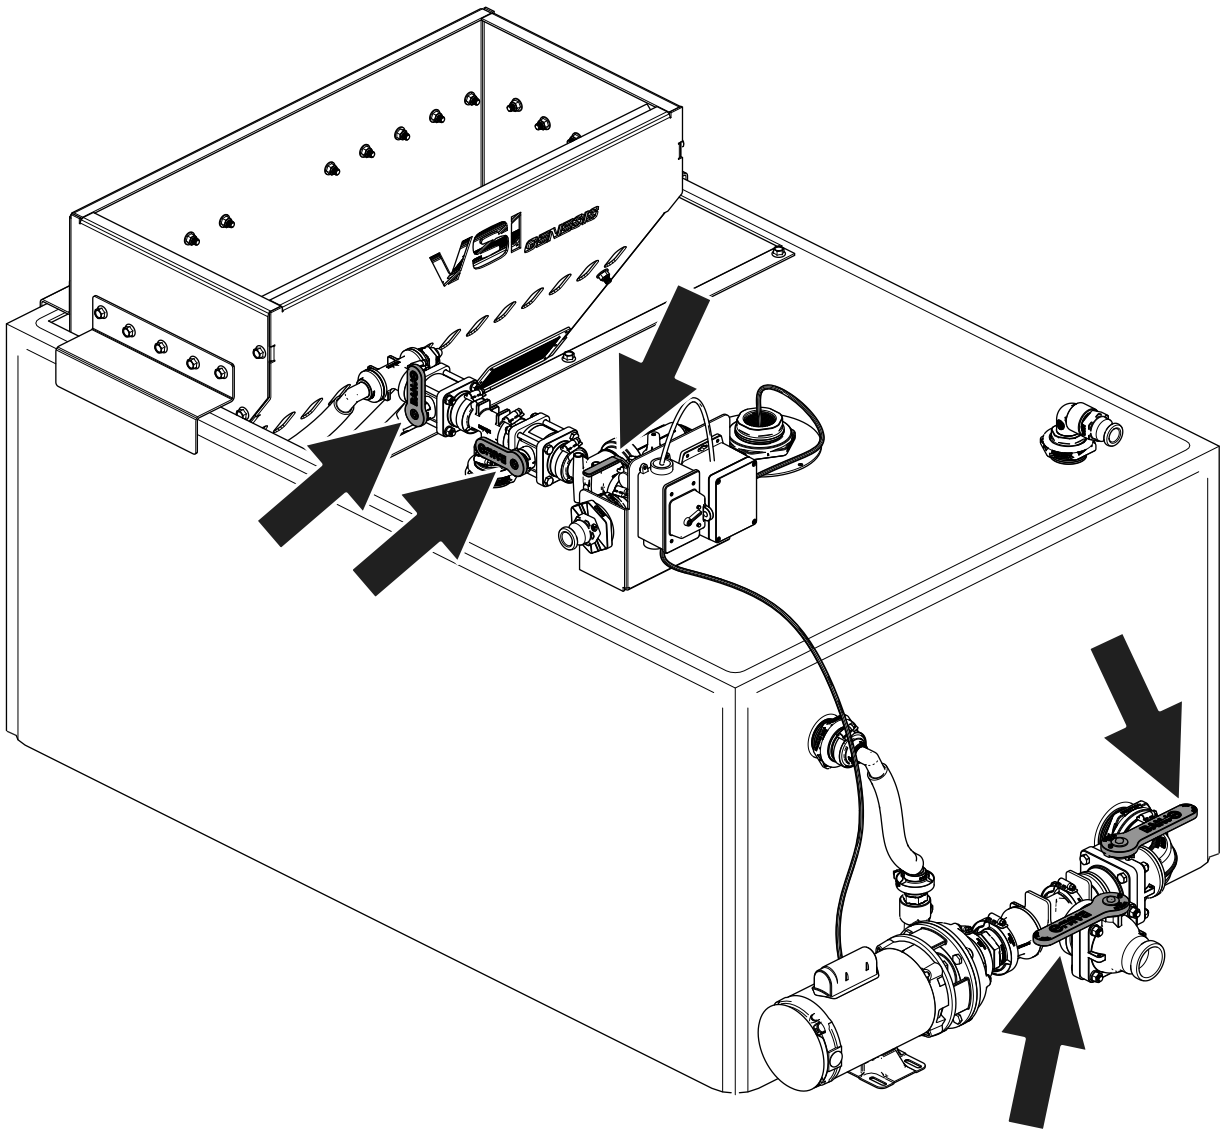

Figure 9
4. Move the valve handles to the locations shown in Figure 9.